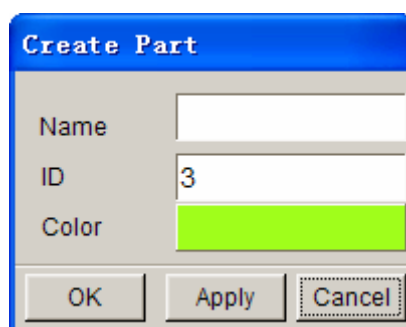

Figure 20 Create Part dialog box
1. Select **Parts**→**Create** from the menu bar or use the shortcut key (**Ctrl+P**) to open the **Create Part** dialog box, as illustrated in Figure 20.